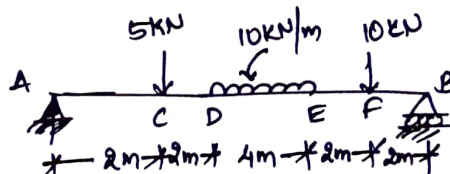

Fig.Q3(b)
- b. Compute the reactions and draw shear force diagram and bending moment diagram for simply supported beam shown in Fig.Q3(b).